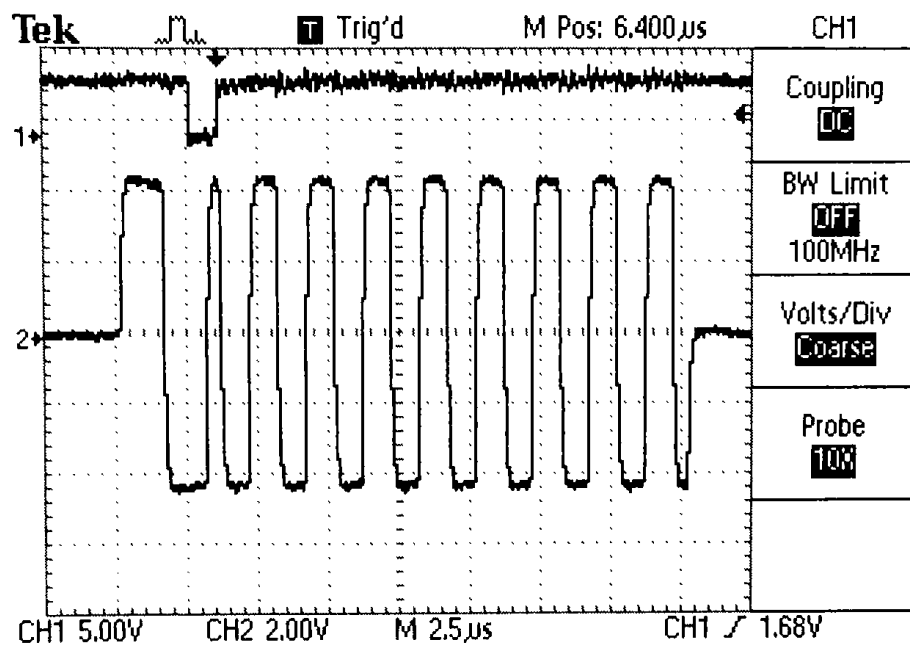
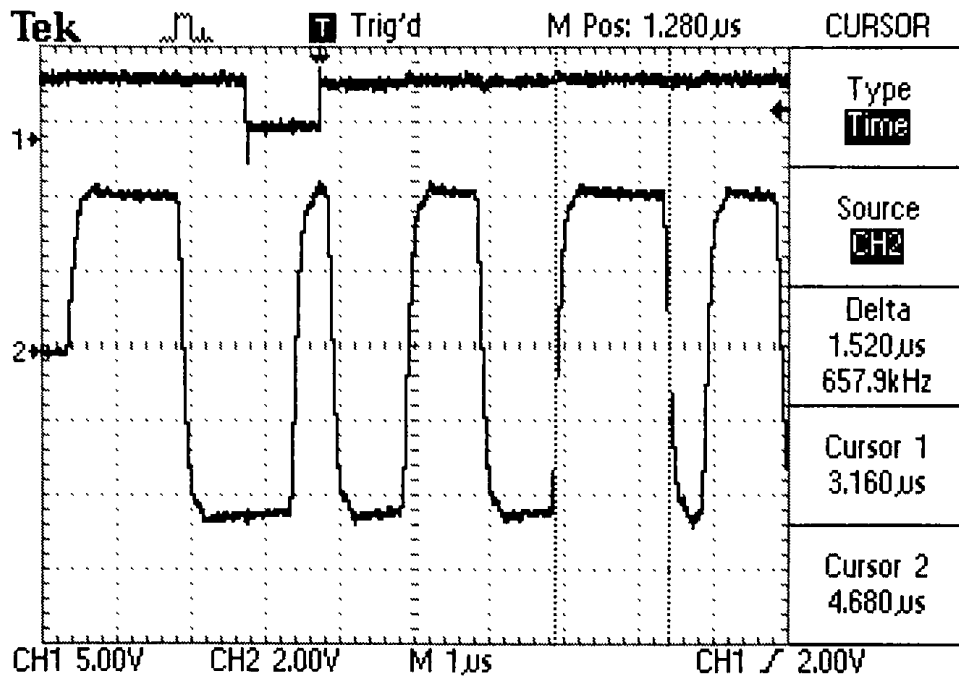

Figure 455-14: No Manchester Error
Figure 455-15: Manchester Error
3. Compare Figure 455-14 (no Manchester error) to Figure 455-15 (with a Manchester error) to insure that there is a Manchester error.